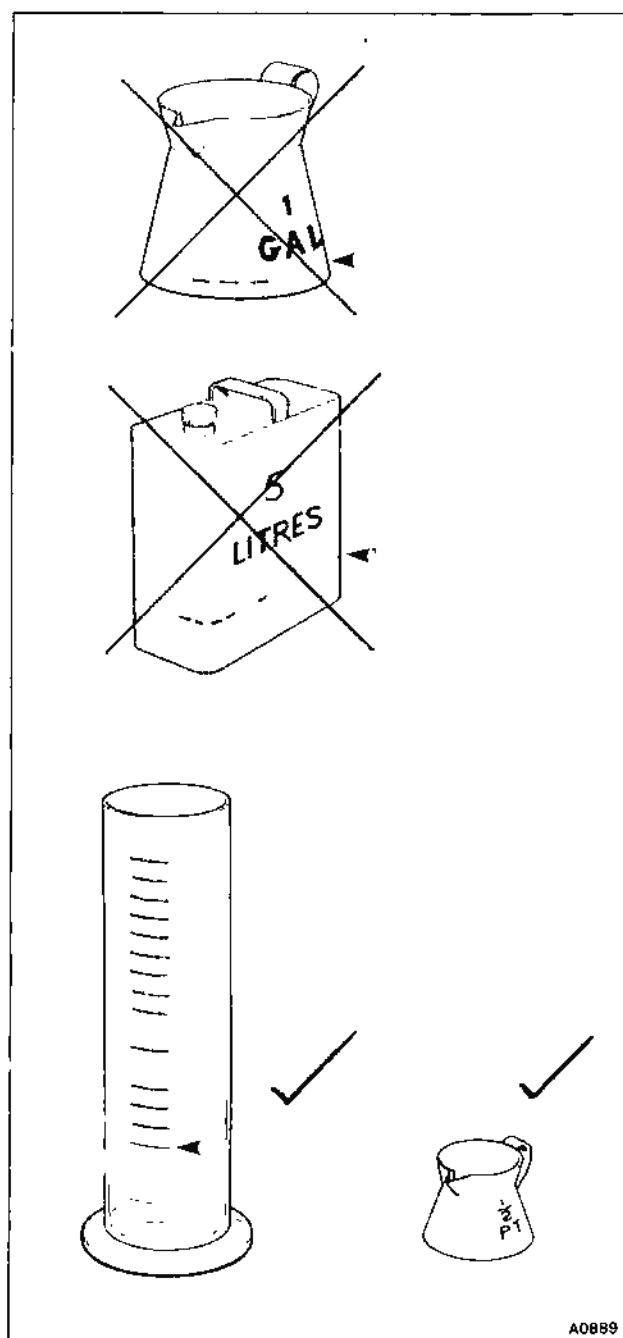

Fig. 1
- 6 Use only accurate measuring vessels for 'topping-up' purposes (see fig. 1).